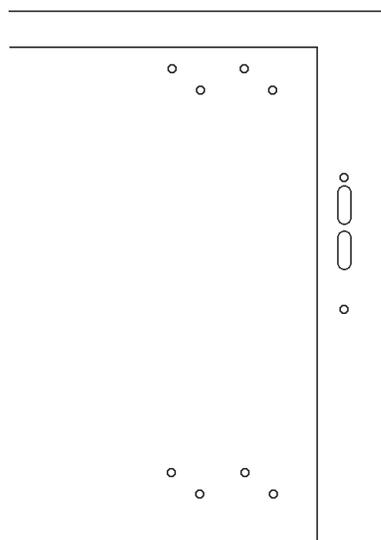

Figure 2
4. Assemble Circuit Breaker Mounting Plate with attached Breaker and Operator to cabinet on lower right set of provided mounting studs (see Figure 2) using provided 1/4" Lock Washers and 1/4-20 Hex Nuts.